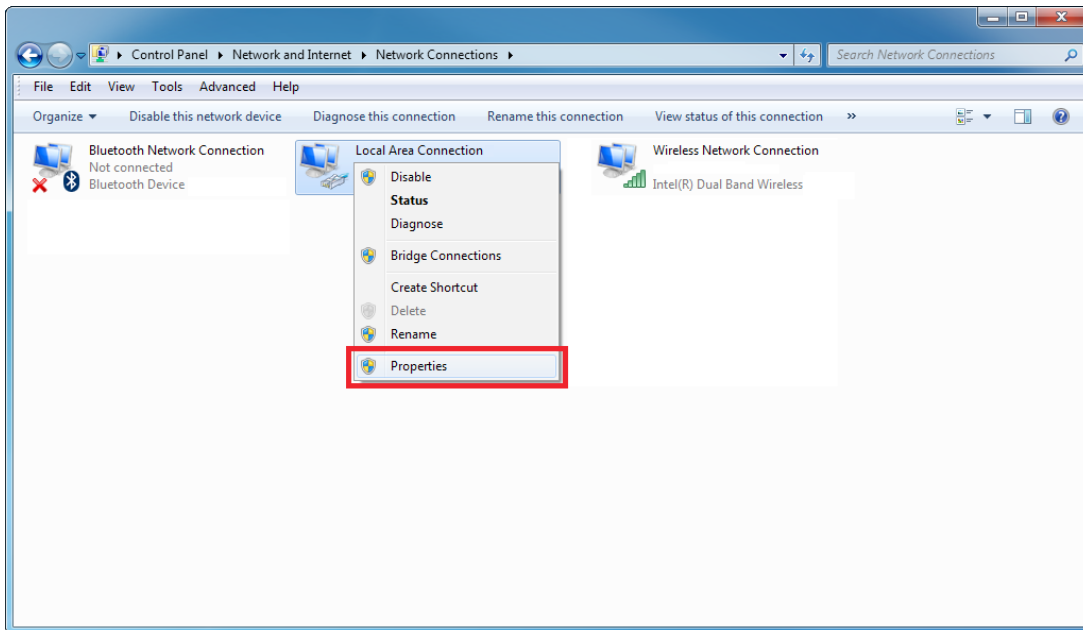

Figure 13 – Local Area Connection “Properties” selection
- Right-clicking the “Local Area Connection” icon will bring up a sub-menu. Select “Properties” from the sub-menu (shown in Figure 13 below).